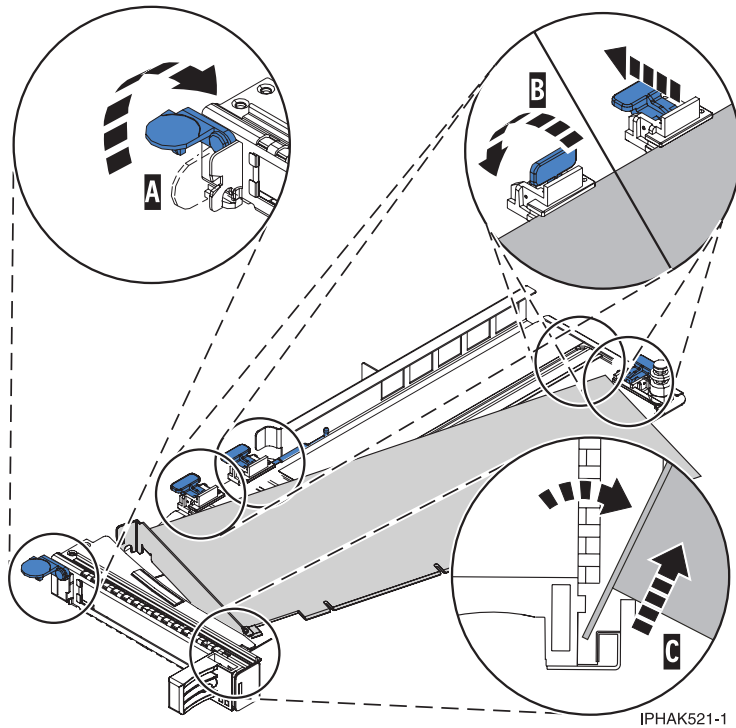

Figure 139. Adapter removed from the PCI adapter cassette
- a. Unlock the adapter retainers by rotating the retainer clip (A) into the horizontal position. See Figure 139 on page 161.